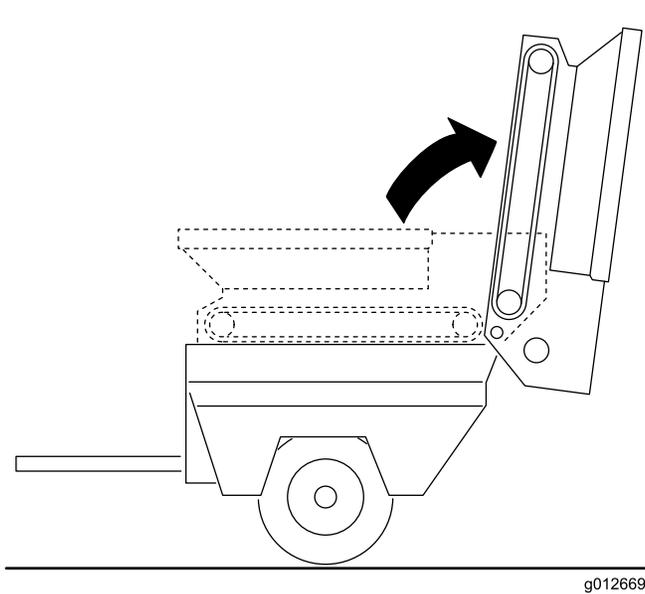

**Figure 23**
- 4. Remove (2) capscrews, washers and nut, on each side of machine, securing hopper to slider bed (Figure 23).